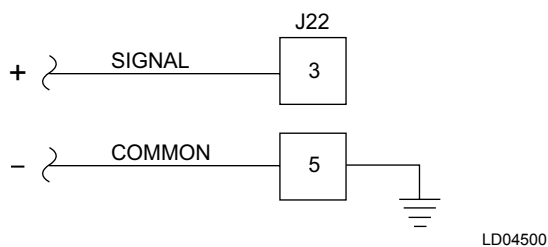
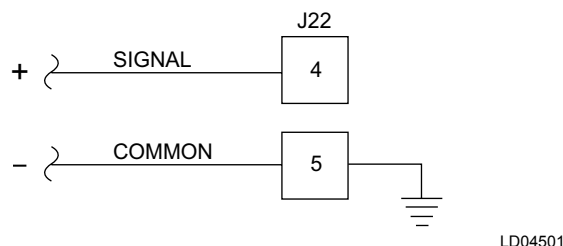

FIGURE 20 - REMOTE LEAVING CHILLED LIQUID TEMP. SETPOINT WITH 0-10VDC OR 2-10 VDC SIGNAL
FIGURE 21 - REMOTE LEAVING CHILLED LIQUID TEMP. SETPOINT WITH 0-20MA OR 4-20MA SIGNAL
0-10VDC - As shown in *Figure 20 on page 15*, connect input to Microboard J22-3 (signal) and J22-5 (Gnd). A 0VDC signal produces a 0°F(0°C) offset. A 10VDC signal produces the maximum offset (10 or 20°F(5.6 or 11.1°C) above the Local Setpoint Value). The setpoint is changed linearly between these extremes as the input varies linearly over the range of 0VDC to 10VDC. This input will only be accepted when ANALOG Remote Mode is selected. The REMOTE ANALOG INPUT RANGE setpoint is set for “0-10VDC” and Microboard Program Jumper JP24 has been removed. Calculate the setpoint for various inputs as follows:
2-10VDC - As shown in *Figure 20 on page 15*, connect input to Microboard J22-3 (signal) and J22-5 (Gnd). A 2VDC signal produces a 0°F(0°C) offset. A 10VDC signal produces the maximum allowed offset (10 or 20°F(5.6° or 11.1°C) above the Local Setpoint Value). The setpoint is changed linearly between these extremes as the input varies over the range of 2-10VDC. This input will only be accepted when ANALOG Remote Mode is selected, the REMOTE ANALOG IN-
0-20mA - As shown in *Figure 21 on page 15*, connect input to Microboard J22-4 (signal) and J22-5 (Gnd). A 0mA signal produces a 0°F(0°C) offset. A 20mA signal produces the maximum allowed offset (10 or 20°F(5.6 or 11.1°C) above the local Setpoint value). The setpoint is changed linearly between these extremes as the input varies over the range of 0-20mA. This input will only be accepted when ANALOG Remote Mode is selected, the REMOTE ANALOG INPUT RANGE setpoint is set for “0-10VDC” and Microboard Program Jumper J24 has been placed on pins 1 and 2. Calculate the setpoint for various inputs as follows:
4-20mA - As shown in *Figure 21 on page 15*, connect input to MicroBoard J22-4 (signal) and J22-5 (Gnd.). A 4mA signal produces a 0°F (0°C) offset. A 20mA signal produces the maximum allowed offset (10 or 20°F(5.6° or 11.1°C) above the Local Setpoint value). The setpoint is changed linearly between these extremes as the input varies over the range of 0-20mA. This input will only be accepted when ANALOG Remote Mode is selected, the REMOTE ANALOG INPUT RANGE setpoint is set for “2-10VDC” and Microboard Program Jumper JP24 has been placed on pins 1 and 2. Calculate the setpoint for various inputs as follows:
8. Two (2) unit controls schemes are suitable for 8°(4.4°C) – 12°F(6.7°C) water range. Constant chilled water flow is assumed at all loads. For other requirements contact your Johnson Controls representative.
10. Lead selector and cycling control to provide similar lead selection and cycling of lag units for three (3) units is available: Kit No. 366-44684D (see Product Drawing Form 160.00-PA1.1) in NEMA I enclosure. Consult your Johnson Controls representative.
11. Sequence control kits (*Figure 11 on page 10* and Note 10) assume a constant chilled water flow and a constant leaving chilled water temperature to sense the cooling load. Sequence control kits are not designed for variable chilled water flow or with reset of the leaving chilled water temperature – see *Figure 20 on page 15, Figure 21 on page 15, Figure 22 on page 16*, and Note 2.